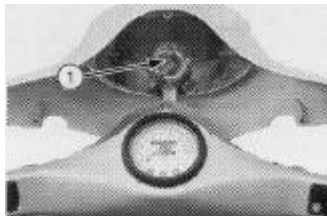

Fig. 25
### A) HEADLIGHT (FIG. 25)
3. Change the flat bulb (1 -FIG. 25).